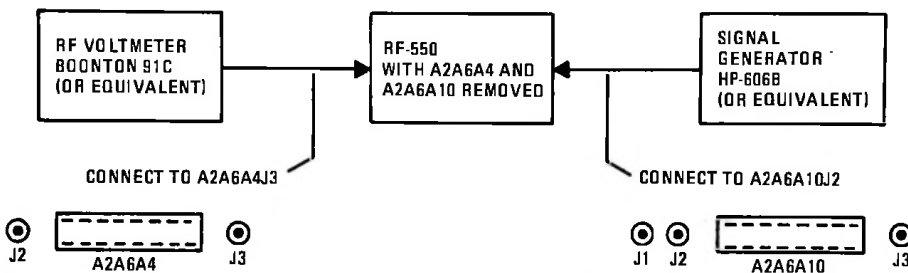

Figure 3. PWBA2A6A4 Test Setup Diagram
b. Make test connections as shown in figure 3.